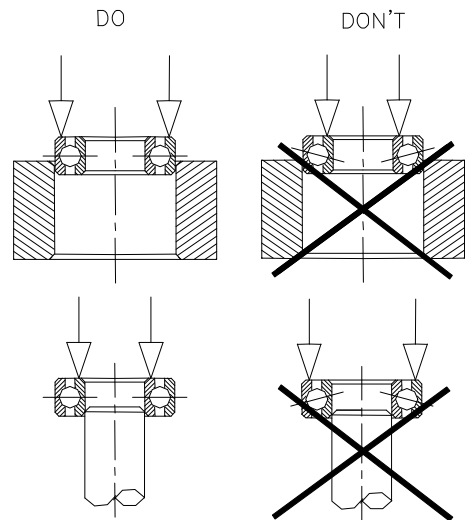

Figure 5 – Bearing Installation
7. Seat the bearing squarely and apply even pressure to the race making contact (see Figure 5).